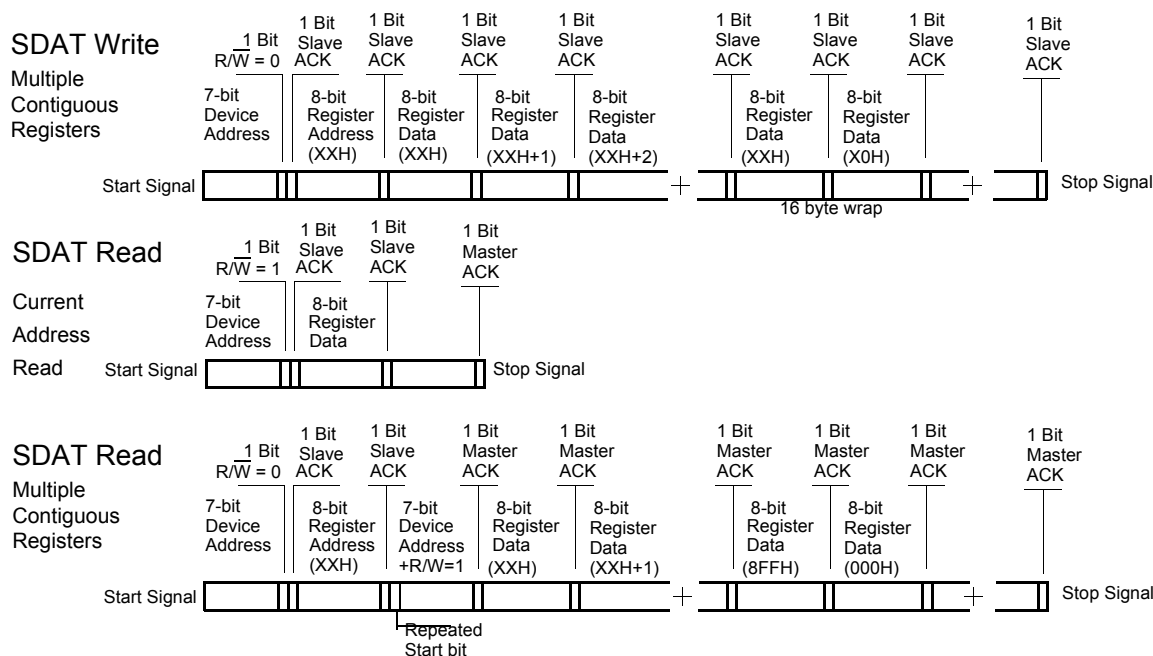

Figure 4. Data Frame Architecture
Start Bit; 7-bit Device Address (DA); $R/\overline{W}$ Bit; Slave Clock Acknowledge (ACK); 8-bit Memory Address (MA); ACK; 8-bit Data; ACK; 8-bit Data in MA+1 if desired; ACK; 8-bit Data in MA+2; ACK; etc. until STOP Bit. The basic serial format is illustrated in *Figure 4*.